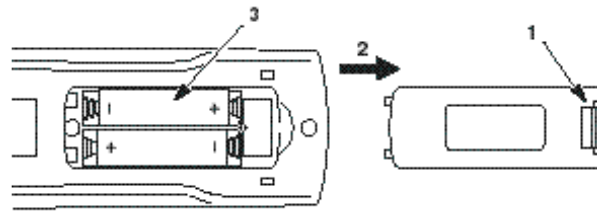

Figure 5-1. Replacing Batteries
1. Press the **locking tab (1)** to release door. Figure 5-1.
4. Install new **batteries (3)**. Make sure the polarity (+/-) on each battery matches the decal.